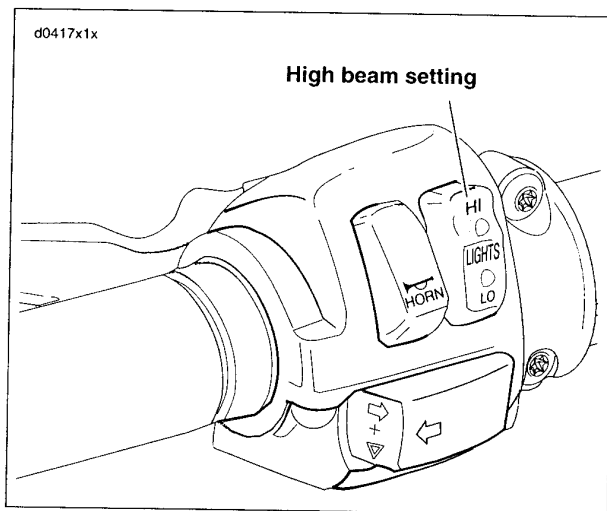

Figure 1-67. Headlamp Switch
7. See Figure 1-67. Turn ignition switch ON. Set handlebar headlamp switch to HIGH beam position.